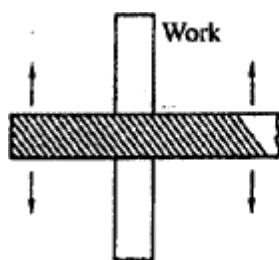

Fig.26 Draw filing
*Draw filing:* Draw filing is basically a finishing operation. A single cut smooth file is used for draw filing. Grasp the file firmly at each end and alternately push and pull it sideways across the work with an even pressure (fig.26).